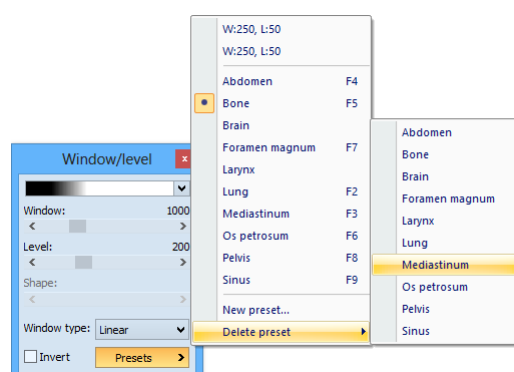

Figure 161 – Deleting a window/level preset
3. Select the preset you want to remove in the displayed submenu list (see Figure 161).